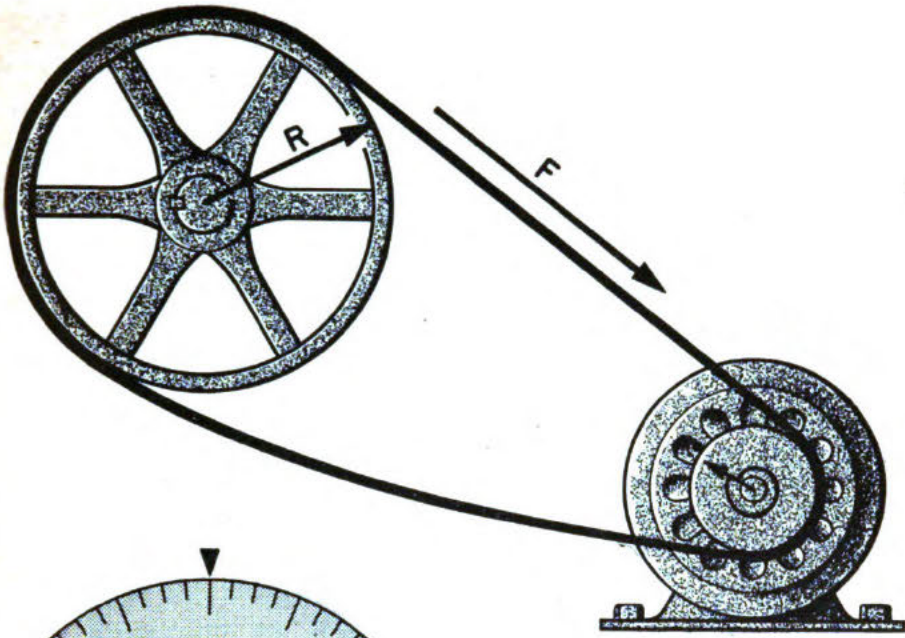

Figure 108.
3. In figure 108, the drive pulley of the electric motor has a diameter of two inches. The large pulley has a diameter of six inches.